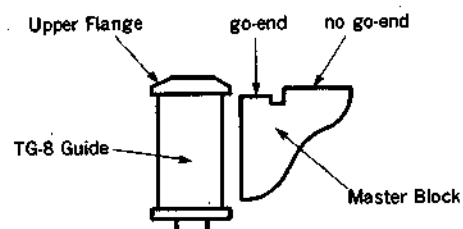

Fig. 6
- (6) Using the guide adjustment screwdriver, turn the upper flange on the guide until the specification is satisfied. (Fig. 6)
- (7) Perform tape path alignment of Sec. 6.